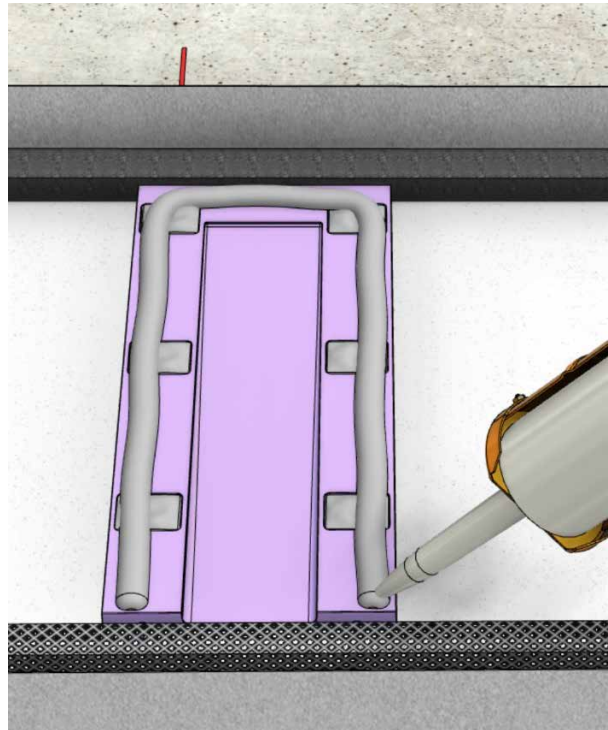

Fig 20
- Fill all the recessed pockets in these shims with a high quality silicone sealant. (Fig. 20)
- Lay down a generous bead of the same Silicone sealant in a U shaped pattern on top of the drainage shims as shown in Figure 20.